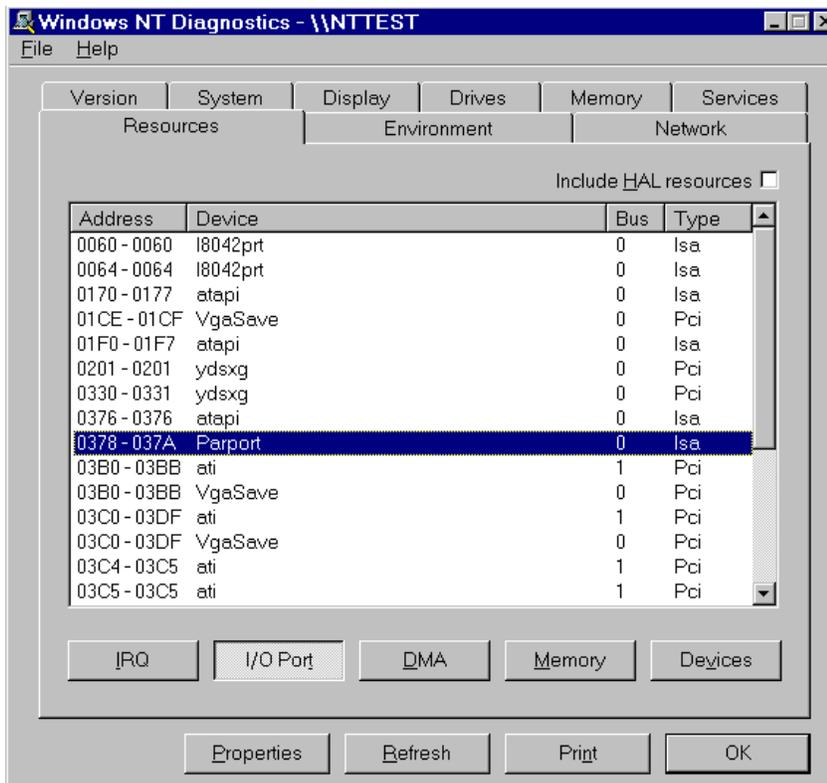

Figure 10. NT Diagnostics Window
2. Select **Administrative Tools**, and click **Windows NT Diagnostics**. The Windows NT Diagnostics window opens (Figure 10).